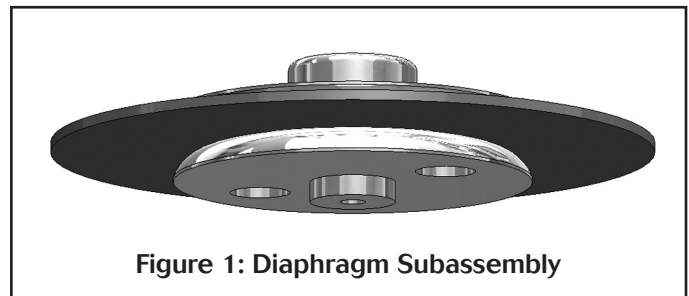

Figure 1: Diaphragm Subassembly
1. Remove adjusting screw assembly (12) completely out of the spring housing (11).
2. If valve is removed from the line, clamp the valve in a vise using the body (1).
3. Remove spring housing (11).
4. Remove range spring (5) and spring seat (13).
5. Remove diaphragm assembly parts (2), (3), and (4). See Figure 1.
7. Remove seat holder (9), seat (10) and plug (8) from body (1).
8. Place new plug (8) into body chamber. Make sure the bottom stop rod (bigger end) of the plug (8) goes down inside the return spring (6).
9. Place the new seat (10) into the seat holder (9) and carefully install into body cavity (1) taking care not to bend the narrow rod on top of the plug (8) when it passes through the seat holder (9). Tighten 30° past contact.
10. Refer to Figure 1. Unscrew the lower diaphragm plate (4) from the upper diaphragm plate (2). Discard the old diaphragm (3) and reassemble with new one. Use LowFlow replacement diaphragm only. Place diaphragm assembly parts (2), (3), and (4) back into body cavity (1), making sure the small counterbore on the bottom of lower diaphragm plate is properly engaged with the narrow tip of the plug (8) which protrudes through the seat holder (9).
11. Replace range spring (5), spring seat (13), centering